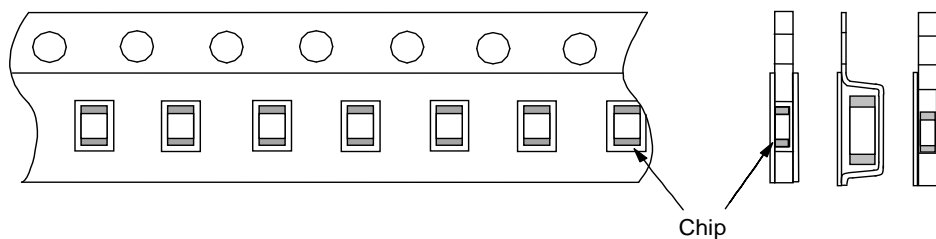

Fig.2 Dimensions of Reel
<div><p>Fig. t:1.6mm (GCJ15:0.8mm)</p></div> <div><p>Fig.2</p></div>
1.11 Reel is made by resin and appeaser and dimension is shown in Fig 2.